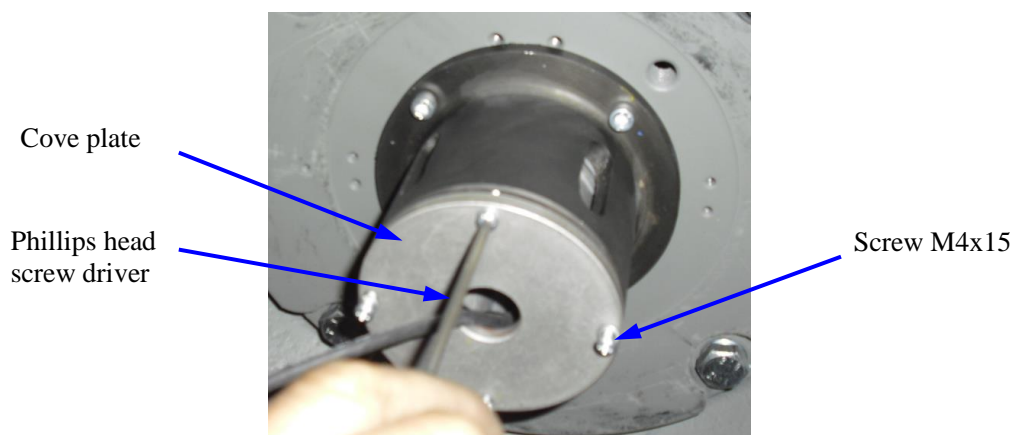

Figure 15: Cover plate removal
1. Loose the screw M4x15 and plain washer 4 by Phillips head screw driver, then remove cover plate. See Figure 15.